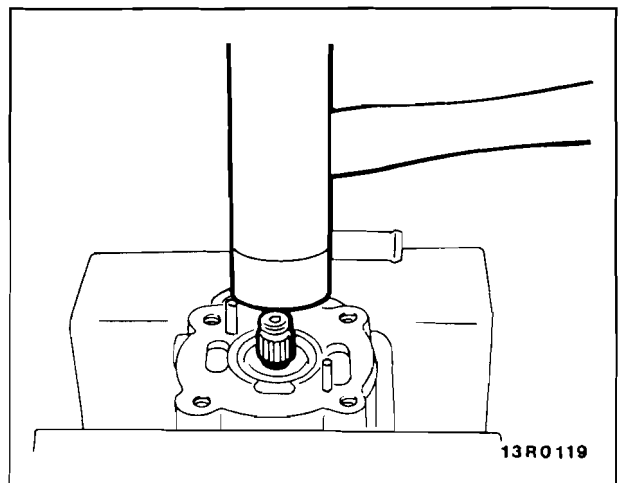

Fig. 9—Removing the pulley shaft assembly
(6) Tapping the rotor side of the shaft lightly with a plastic hammer, remove the pulley shaft assembly, refer Fig. 9.